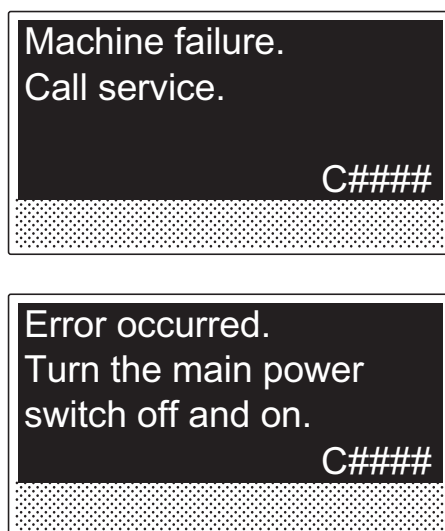

Figure 1-4-2
*: Refer to figure 1-4-2 for paper jam location (see page 1-4-1).